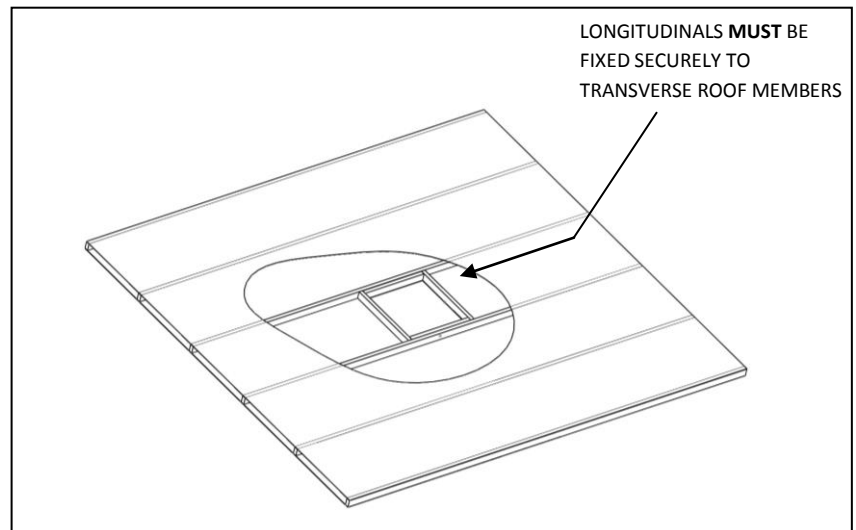

Fig 3: Shows an ideal roof structure with strong longitudinals and a 14' hole boxed
- The square hole in the roof (360 x 360mm, 14” x 14”) **MUST** be boxed up with minimum 20mm square timber to provide a structure strong enough to withstand the compression of the installation bolts. This is also to ensure that air is not drawn from the roof cavity (Fig 3 & 4). Remember to leave access for wiring.
- Longitudinals **MUST** be fixed securely to the transverse roof members to transfer load (see Fig 3 & 4).